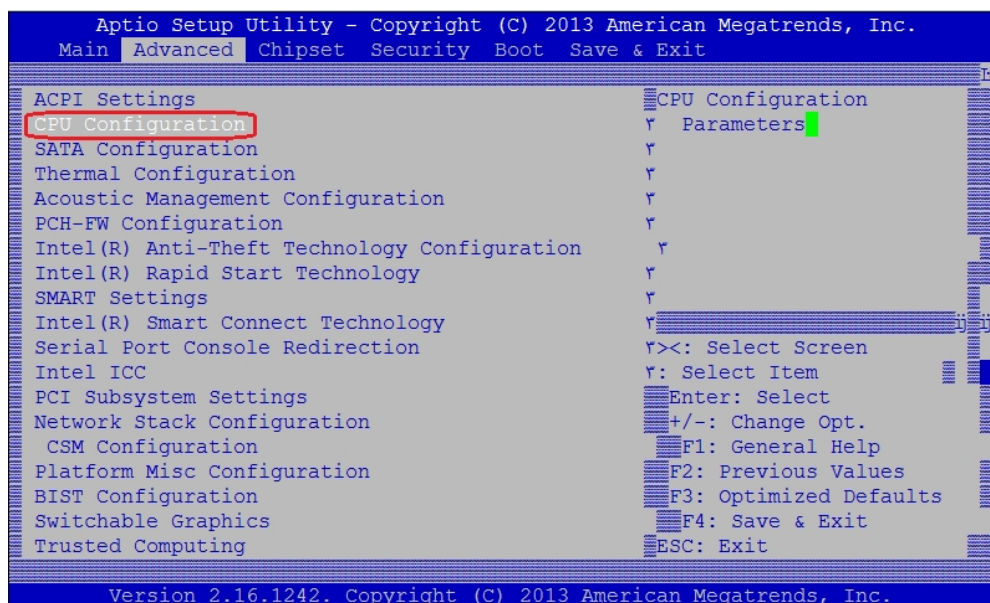

Figure 7-10: Selecting CPU Configuration
2. On the Advanced tab, select *CPU Configuration* (Figure 7-10 below).